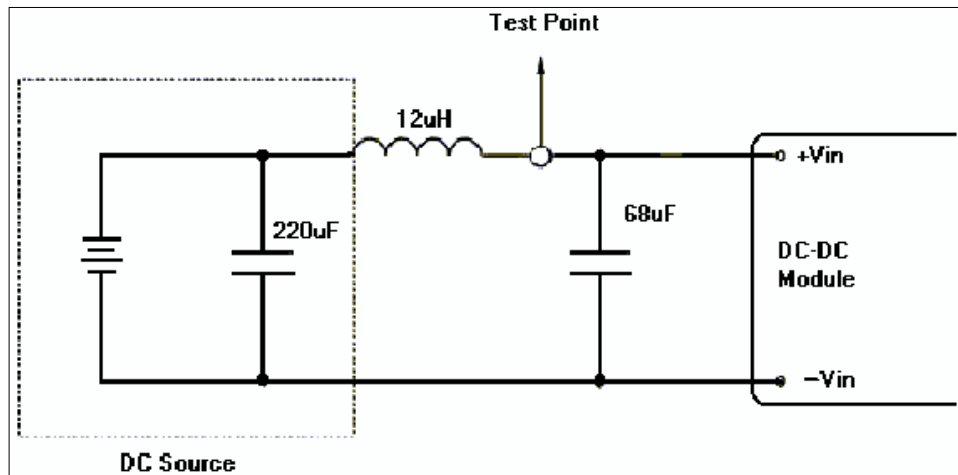

Figure 2. Measure input inrush current with a simulated source inductance of 12 μH and input bulk capacitor of 68 μF .
3. See Figure 2 for the Inrush Current Test Setup. Input capacitor with 68 $\mu\text{F}/450\text{V}_{\text{min}}$ must always be added.